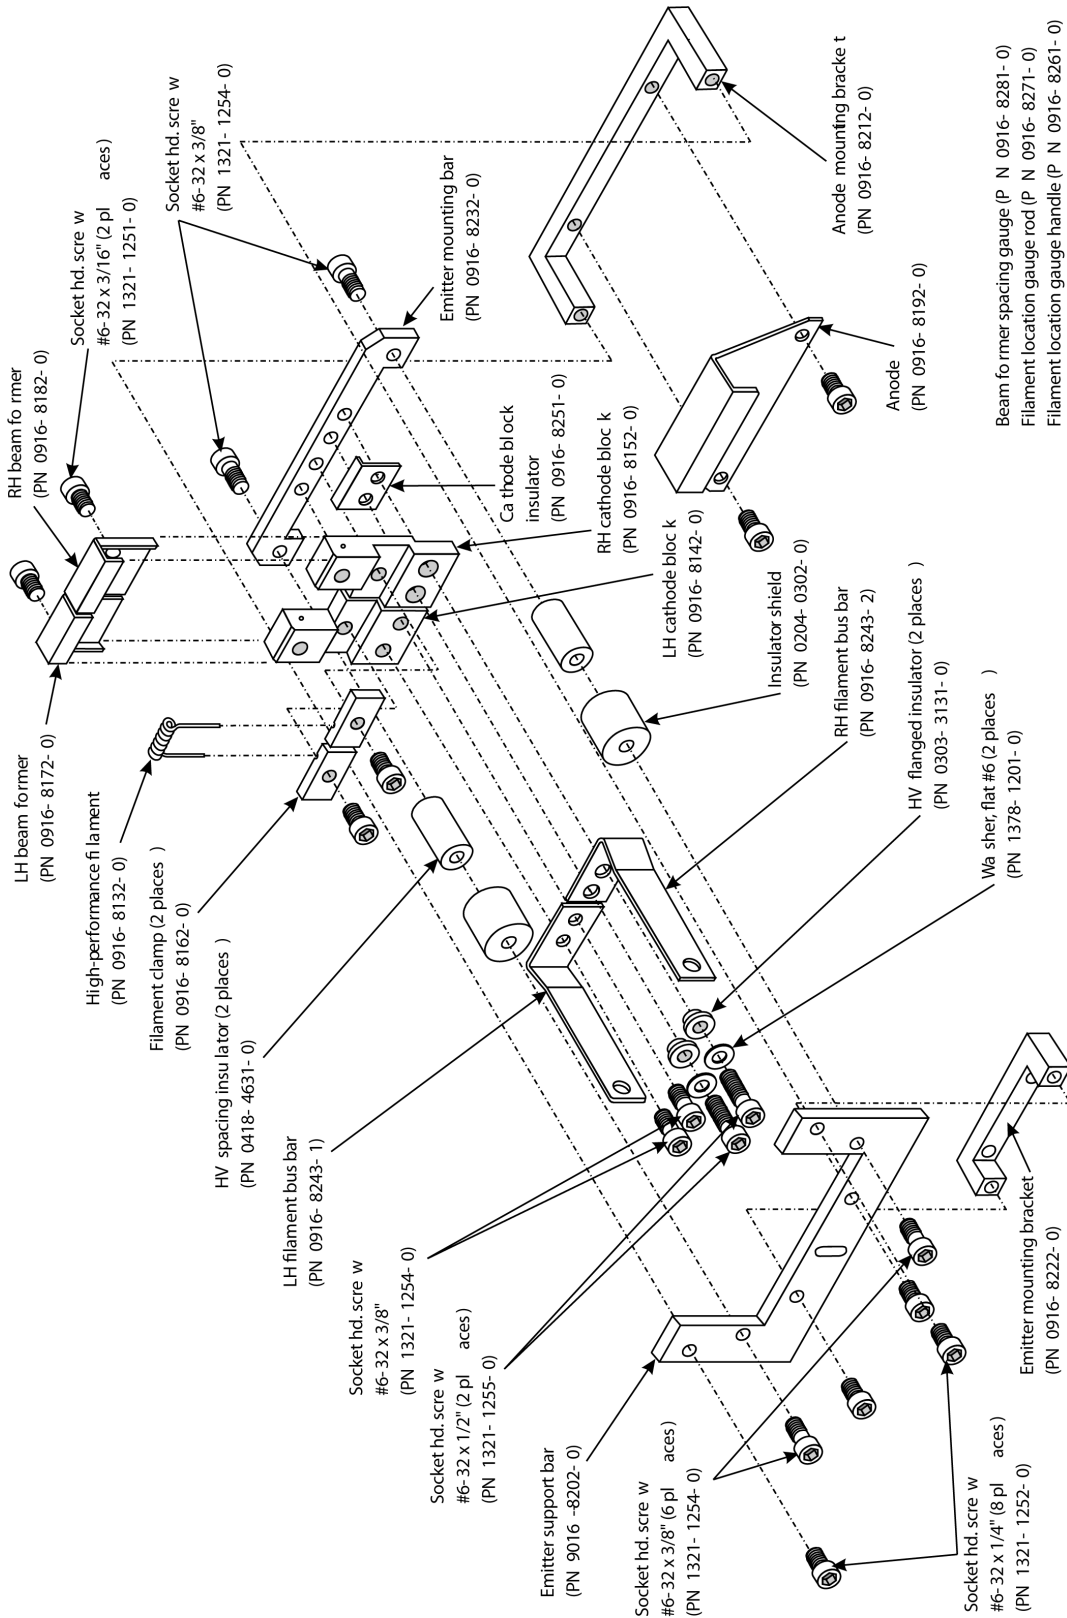

Figure 4-3. Part Identification for High Performance Emitter
2. Examine all screws as you disassemble the emitter and replace any that show signs of thread damage or distortion. Damaged screws are likely to become frozen in place during subsequent source operation, resulting in breakage or thread stripping the next time you attempt to remove them. Coat all screws that you do reuse with molybdenum disulfide (ROCOL or equivalent). When replacing screws, use only stainless steel 6-32 socket-head screws of the correct lengths (see Figure 4-3). All screws must be vented so as to create a path through which gases trapped between the threads can be pumped out. To minimize virtual leaks, it is important that the underside of the screw's head as well as its threads be vented. For best results, use the screws that are available from Temescal, as they come machine vented in the correct manner.